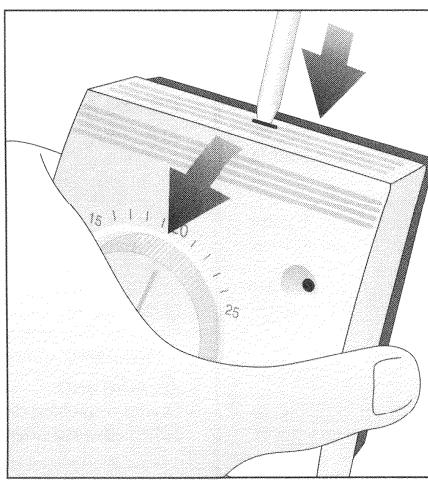
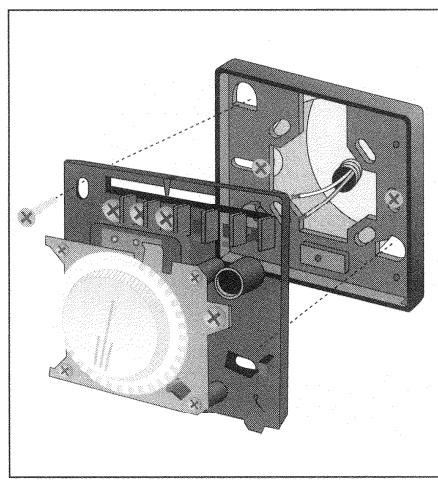
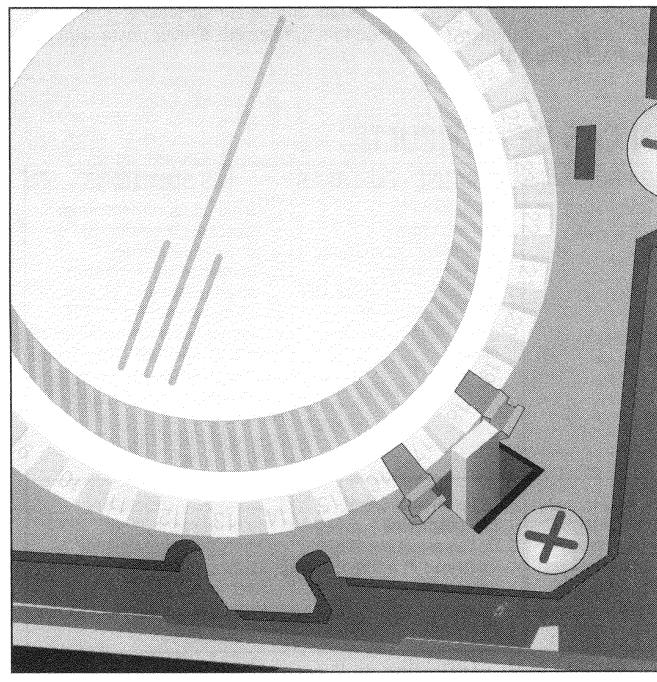

fig.8 - εικ.8
fig.9 - εικ.9
fig.15 - εικ.15
B) Remove the front cover from the thermostat base by releasing the provided clip (fig.8), then fix it to the wall (or to the sub-base fitting) through the provided holes (fig.9) and tighten it by means of suitable screws having max of 3,5 mm.
Remove the front cover from the thermostat base by releasing the provided clip. (fig.8)
Position the knob to correspond with the desired temperature value, then separate the base from the cover by pressing the appropriate retaining tooth. (fig.8) Insert the two special accessories (see chapter "Accessories upon Request") on the sides of the metal stop in order to prevent the handle from moving (fig.15); put the lid back on the product.